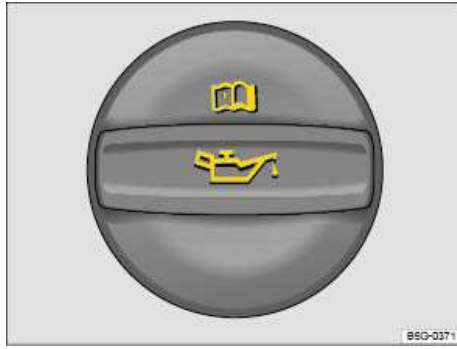

Fig. 143 In the engine compartment: Engine oil filler cap.
4. Find the oil filler opening and the dipstick. You can identify these by the 📖 symbol on the engine oil filler cap ⇒ fig. 143 and the colored handle on the dipstick. If you are not sure where the cap and the dipstick are located, see your authorized Volkswagen dealer or authorized Volkswagen Service Facility for assistance.
- (A): **Do not start the engine** ⇒ ⚠. Contact an authorized Volkswagen dealer or an authorized Volkswagen Service Facility for assistance.
- (B): **Do not** add any oil ⇒ ⚠. Continue with step 15.
- (C): Oil may be added, depending on the oil level. Continue with step 8 or step 15.
- (D): **You must** add oil (about 1 quart / 1.0 liter). Continue with step 8.
9. Remove the cap on the engine oil filler opening ⇒ fig. 143.